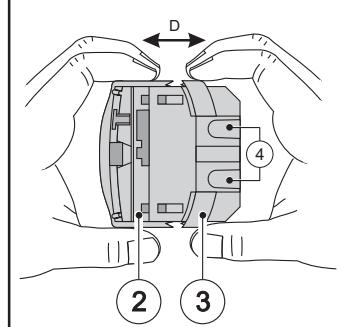

Fig. 2
- Open the detector ② & ③ (Fig. 2).
- Break out one or both cable entry hole(s) ④ as required (Fig. 2 & 3).